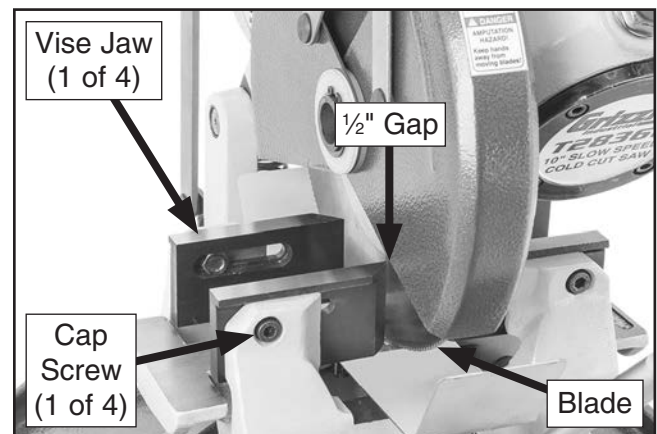

Figure 37. Correct blade clearance setting.
5. Slide jaws away from blade, then lower blade and position each jaw approximately $\frac{1}{2}$ " away from blade (see **Figure 37**).